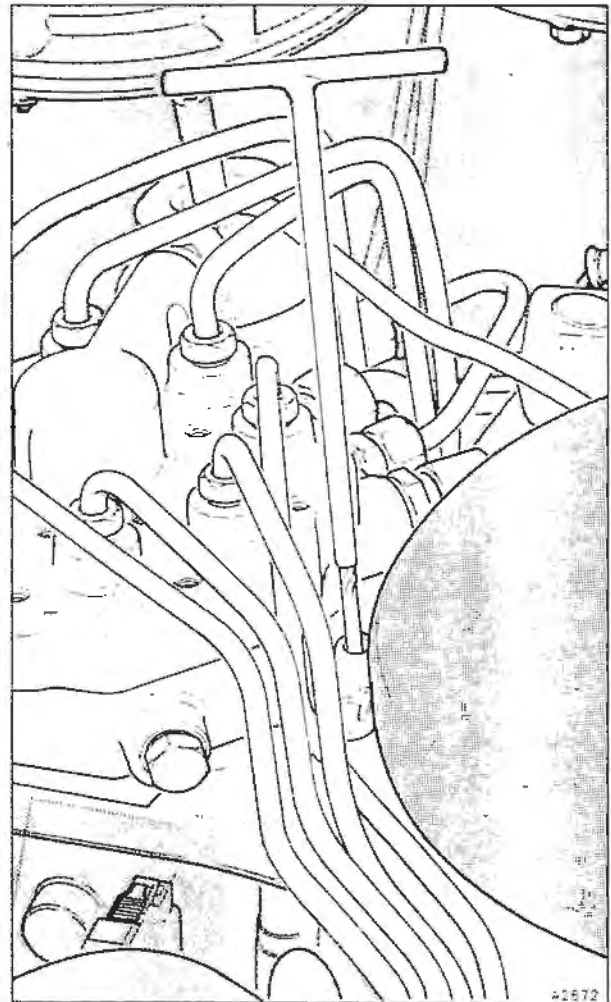

Fig. B4-54 Adjusting the idle mixture strength
8. Remove the mixture adjustment screw access plug. Insert the mixture adjusting tool (see fig. B4-54) and adjust the idle mixture strength as required. The idle mixture screw should be turned clockwise to richen the mixture (increase CO%) and anti-clockwise to weaken the mixture (reduce CO%).